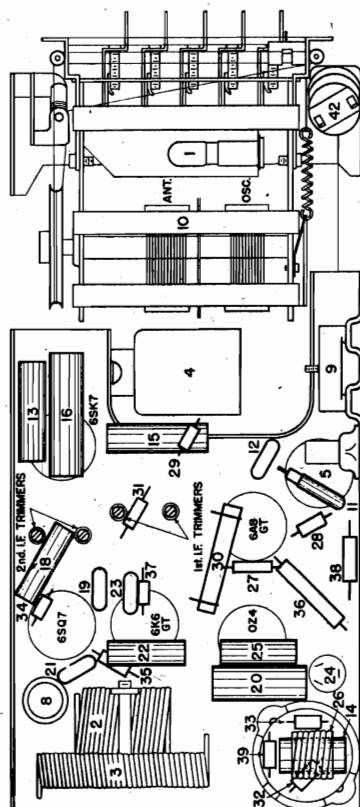

Fig. 3—Bottom View Model A-250
- (d) Adjust both trimmers on the 2nd. I-F transformer for maximum output. (See figure 3).
- (e) Adjust both trimmers on the 1st I-F transformer for maximum output. (See figure 3).